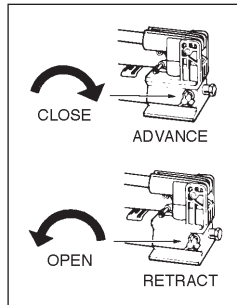

Figure 7
1. To advance cylinder plunger, turn pump release valve clockwise as illustrated in Figure 7 and close **finger tight**.
3. To retract cylinder plunger, turn release valve counterclockwise as illustrated in Figure 7.